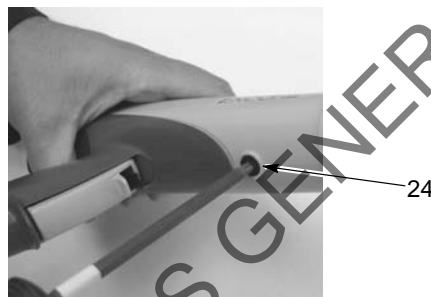

Figure 3 Removing Gun Body Screw
14. See Figure 3. Install the M5 x 10 flat head nylon screw into the gun body to secure it to the handle.